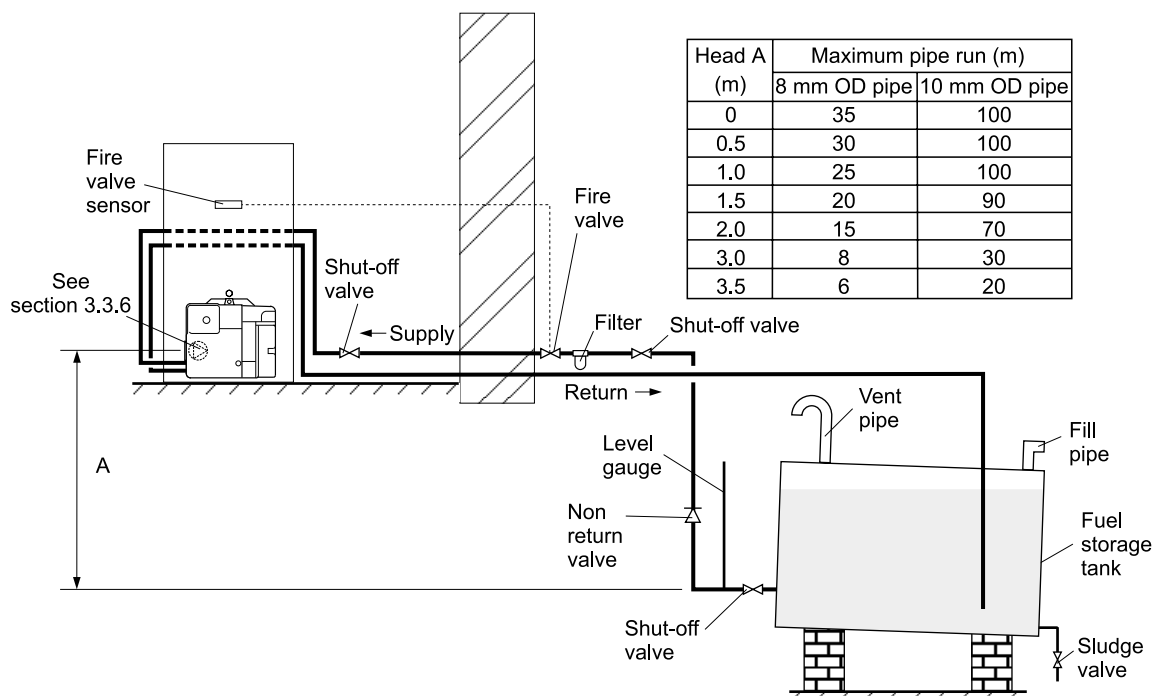

Fig. 4 - Two pipe system
3.4.4 Two pipe system - (See Fig. 4)
- 1 When the storage tank outlet is below the burner, the two pipe system should be used. The pipe runs should be as shown in Fig. 4. The return pipe should be at the same level in the tank as the supply pipe, both being 75 to 100 mm above the base of the tank. The pipe ends should be a sufficient distance apart so as to prevent any sediment disturbed by the return entering the supply pipe.
- 4 To be used with a two-pipe system, the burner **must** be fitted with an additional flexible fuel line (a flexible fuel line (600 mm) and $\frac{3}{8}$ " to $\frac{1}{4}$ " BSP male adaptor are available from Grant Engineering (UK) Limited - Part No. RBS104).